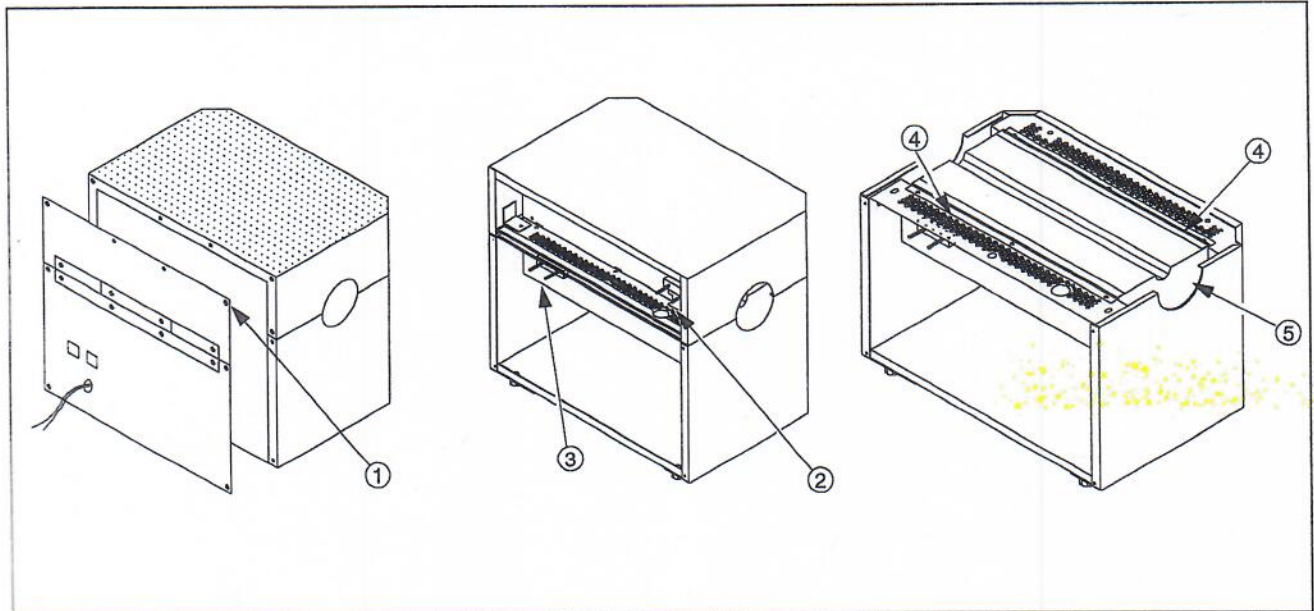

Figure 6. Heating Unit Replacement
To replace the heating unit, complete the following steps (refer to Figure 6):
2. Remove the eight corner screws connecting the back panel to the furnace (item #1 in Figure 6). Place the panel near the furnace.
3. Locate the top heating unit terminal block (item #2 in Figure 6). Label the twisted, solid silver wires which are attached to the terminal block.
6. Mark and remove the wires from the bottom heating unit terminal block (item #3 in Figure 6).
8. Remove the six screws holding the two element hold-down brackets (item #4 in Figure 6). Remove the hold-down brackets.
9. Lift the heating unit (item #5 in Figure 6) up and out.